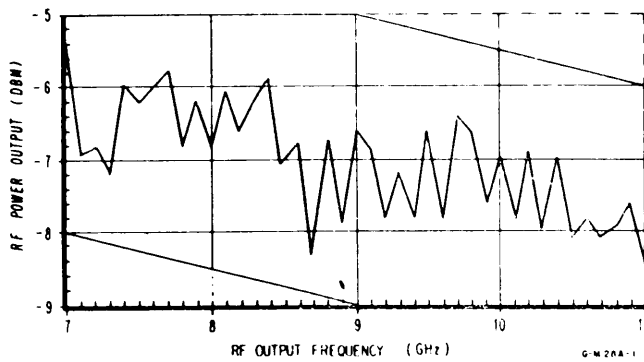

Figure 5-19. Typical Response Curve (620B).
5-103. An initial setting has now been made that will be accurate within approximately ± 5 dB. To refine this setting and obtain the original calibration accuracy of ± 2 dB it is necessary to measure the output of the signal generator across the frequency range and construct a graph showing the frequency response of the instrument. Figure 5-19 shows such a graph with a typical response curve after the power output curve has been centered about the -7 dBm reference level. The final adjustment is made by slipping the attenuator dial, while measuring the RF output level at a convenient frequency on the curve, to bring the total power spread to be within the ± 2 dB limits of the -7 dBm reference level. The limits are indicated by the heavy transverse lines above and below the -7 dBm center line. Proceed as follows:
f. Repeat steps c through e every 200 MHz from 7 GHz to 11GHz. Plot the resulting data as a response curve such as the one shown in Figure 5-19.